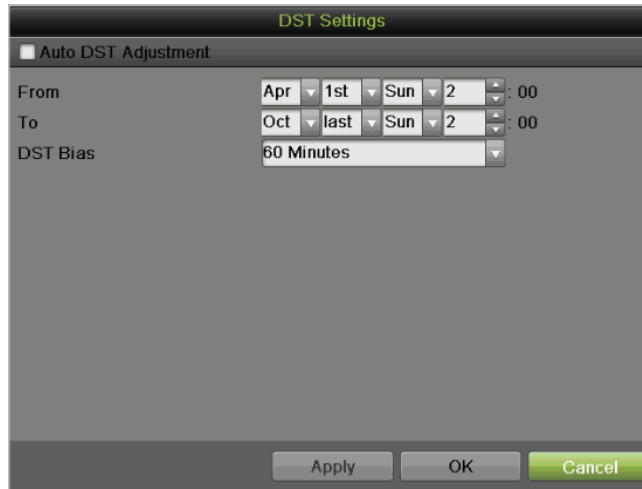

Figure 44 DST Settings Menu
4. To enable Daylight Savings Time, click and check the Enable DST checkbox and there will pop-up the DST Setting menu, as shown in Figure 44. You can check the Auto DST Adjusting checkbox or manually check the date of the DST period and click the Apply button to confirm the setting. Click the OK button to return to the up level menu.